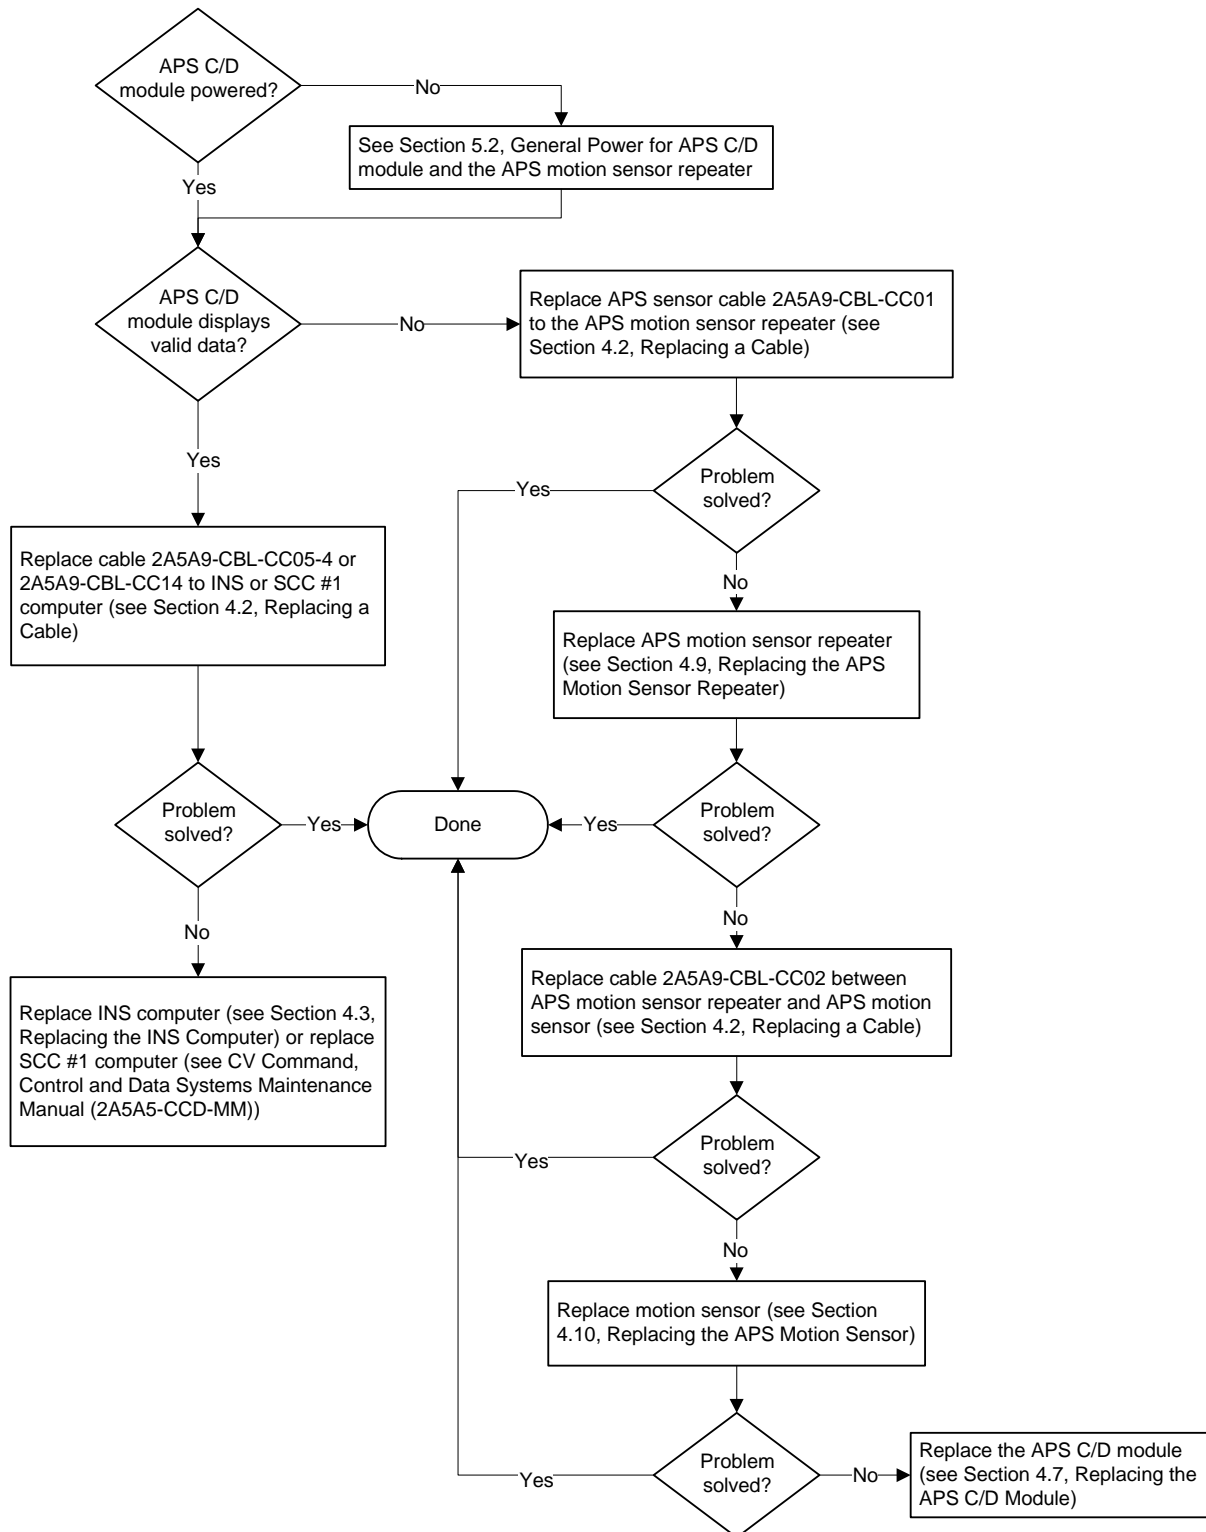

Figure 10 Troubleshooting – INS Computer is not Communicating with APS C/D Module – Sheet 1
1. Follow the troubleshooting steps in Figure 10.